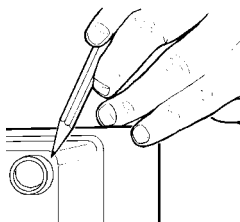

Figure 1
- 1.5. The Mira Advance ATL must be fitted **ONTO** the finished wall surface i.e. on top of the tiles. **DO NOT** block the air ventilation gaps around the sides of the unit, either by tiling up to the sides of the unit or by using a sealant around the case (Small pillars moulded on to the back of the case allow air circulation). This Mira Advance ATL is designed to be ventilated. Failure to do this may cause product failure (refer to Figure 1).